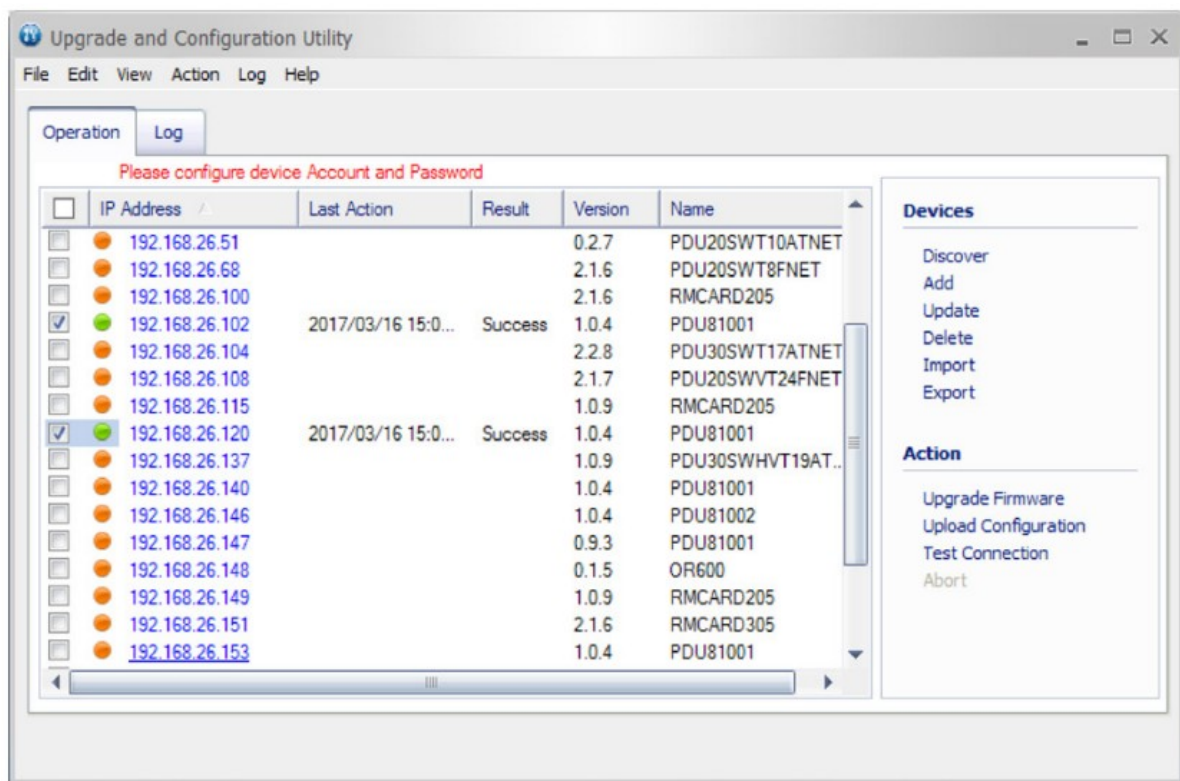

Figure 7
10. The result of firmware upgrade will show in Result column (Shown in Figure 7).